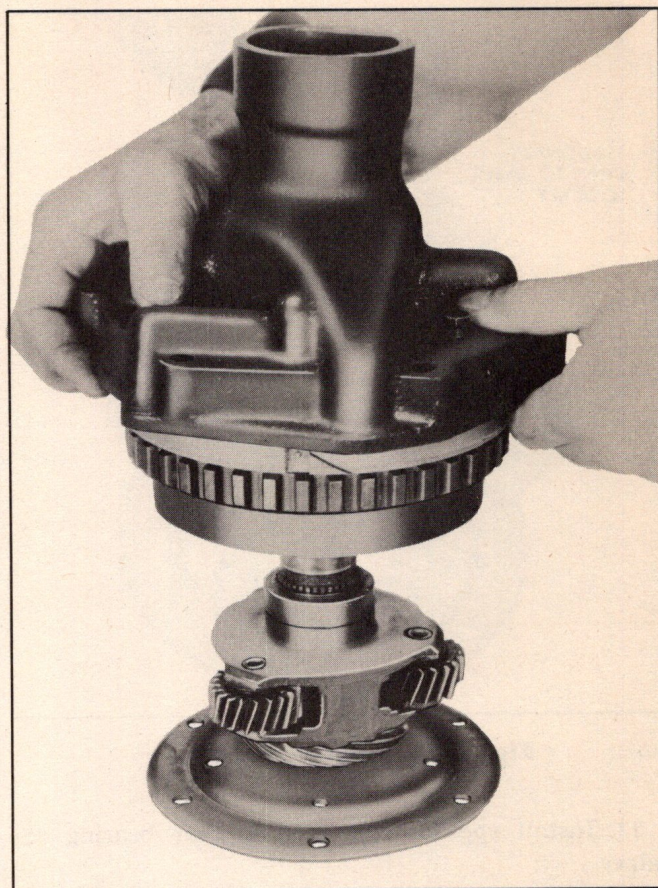

Fig. 270—Installing Rear Bearing Retainer on Output Shaft
20. With output shaft standing on carrier end, place rear bearing retainer over output shaft and mesh carrier gears with internal gear (Fig. 270).